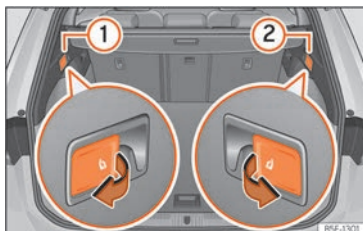

Fig. 119 In the luggage compartment: levers to unlock the rear backrest.
- Pull the remote release lever of the left part » **Fig. 119** ① or right part ② of the backrest in the direction of the arrow. The released part of the rear seat backrest is folded automatically down and forwards.